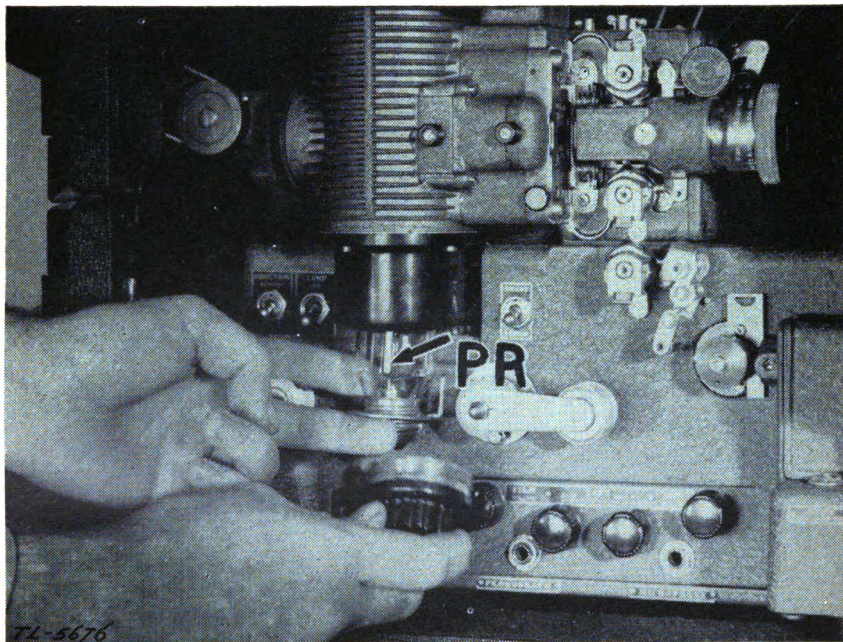

FIGURE 64.—Removing Bell & Howell projector lamp.
*c. Bell & Howell.*—(1) To replace the projector lamp, unscrew the cap at bottom of lamp house, allowing lamp to slide out (fig. 64). Screw centering ring on new lamp, and with centering tongue forward, raise lamp into position. Replace retaining cap.